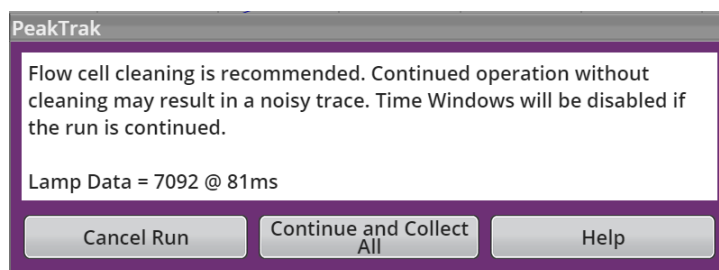

Figure 5-4 Flow cell cleaning message window
- Frequent messages recommending flow cell cleaning (Figure 5-4).
When the lamp energy is lower than normal, the system will recommend flow cell cleaning (Figure 5-4) before starting a separation run.